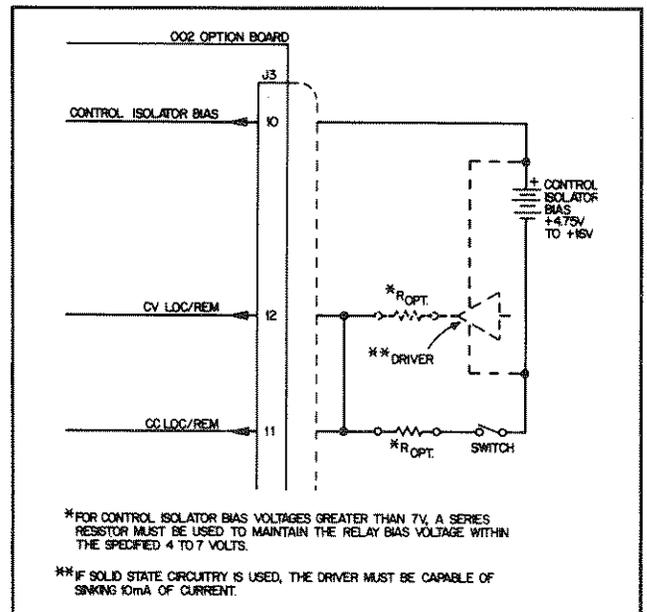
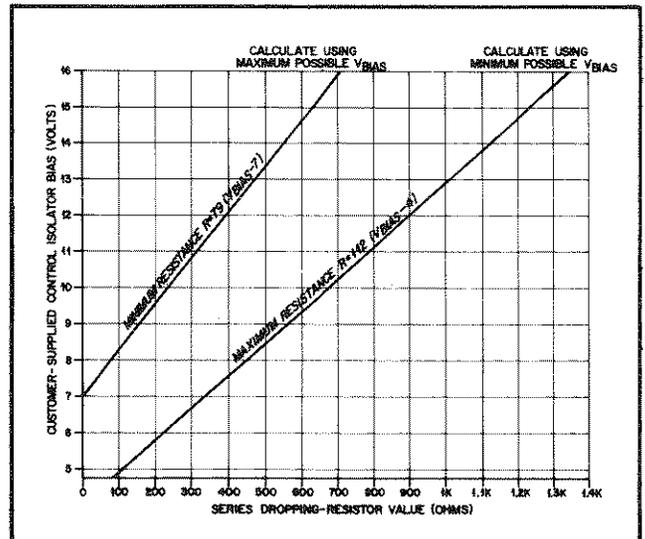

Figure A-3. Accessing Local Programming while in Remote Programming Mode
Figure A-4. Calculating Value of Series Dropping Resistor
**A-21 Local Programming (Figure A-3).** The supply can be switched back and forth between remote and local programming while initially checking out a remote programming circuit. For proper operation of local programming, the user must supply the bias voltage (CONTROL ISOLATOR BIAS). The Control Isolator Bias voltage can range from +4.75 V to +16 V depending upon the user's interface circuits. Refer to Specifications Table A-1. For local programming, take the Control Isolator Bias common and connect it to both of the LOC/REM terminals, and position mode switch as indicated in paragraph A-19.
Although CONTROL ISOLATOR BIAS can be +4.75 V to +16 V, a supply voltage of more than 7 V may damage the relays. Therefore, if CONTROL ISOLATOR BIAS exceeds 7 V it is necessary to use a resistor in series with each of the LOC/REM terminals. Figure A-4 provides a graph
from which the proper series resistance value can be determined. Note that the tolerances of both the Control Isolator Bias and the resistor must be taken into account. The actual Control Bias used in Figure A-4 is obtained after subtracting any driver gate voltage drop.
If solid state circuitry is used, connect the Control Isolator Bias to a driver capable of sinking 10 mA of current, then connect the driver's output to both of the LOC/REM terminals. Refer to figure A-3. Either method will enable relays K1 (CV) and K2 (CC) to switch regulation to the front panel VOLTAGE and CURRENT controls. For Control Isolator Bias voltages greater than 7 V, a resistor ( $R_{opt}$ ) must be used in series with the Control Isolator Bias common or the Driver's output. Figure A-4 pro-